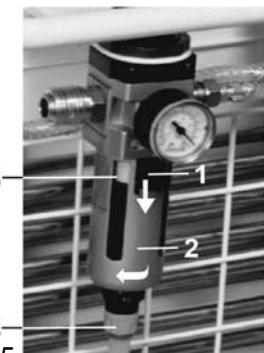

Fig.15
**Compressors with condensation and filtration unit (Fig.15)**
(Fig.15)